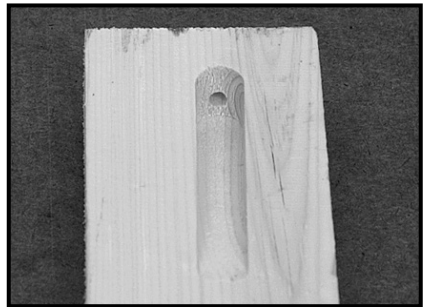

Fig. 24
4. Determine the direction (left or right, as viewed in Fig. 24), and amount of pocket movement required to align pocket with pilot hole.
One turn of the screw will move the pocket approximately $\frac{3}{64}$ ". Clockwise rotation of the screw will move the pocket to the right (as viewed in Fig. 24). Counterclockwise rotation of the screw will move the pocket to the left (as viewed in Fig. 24).